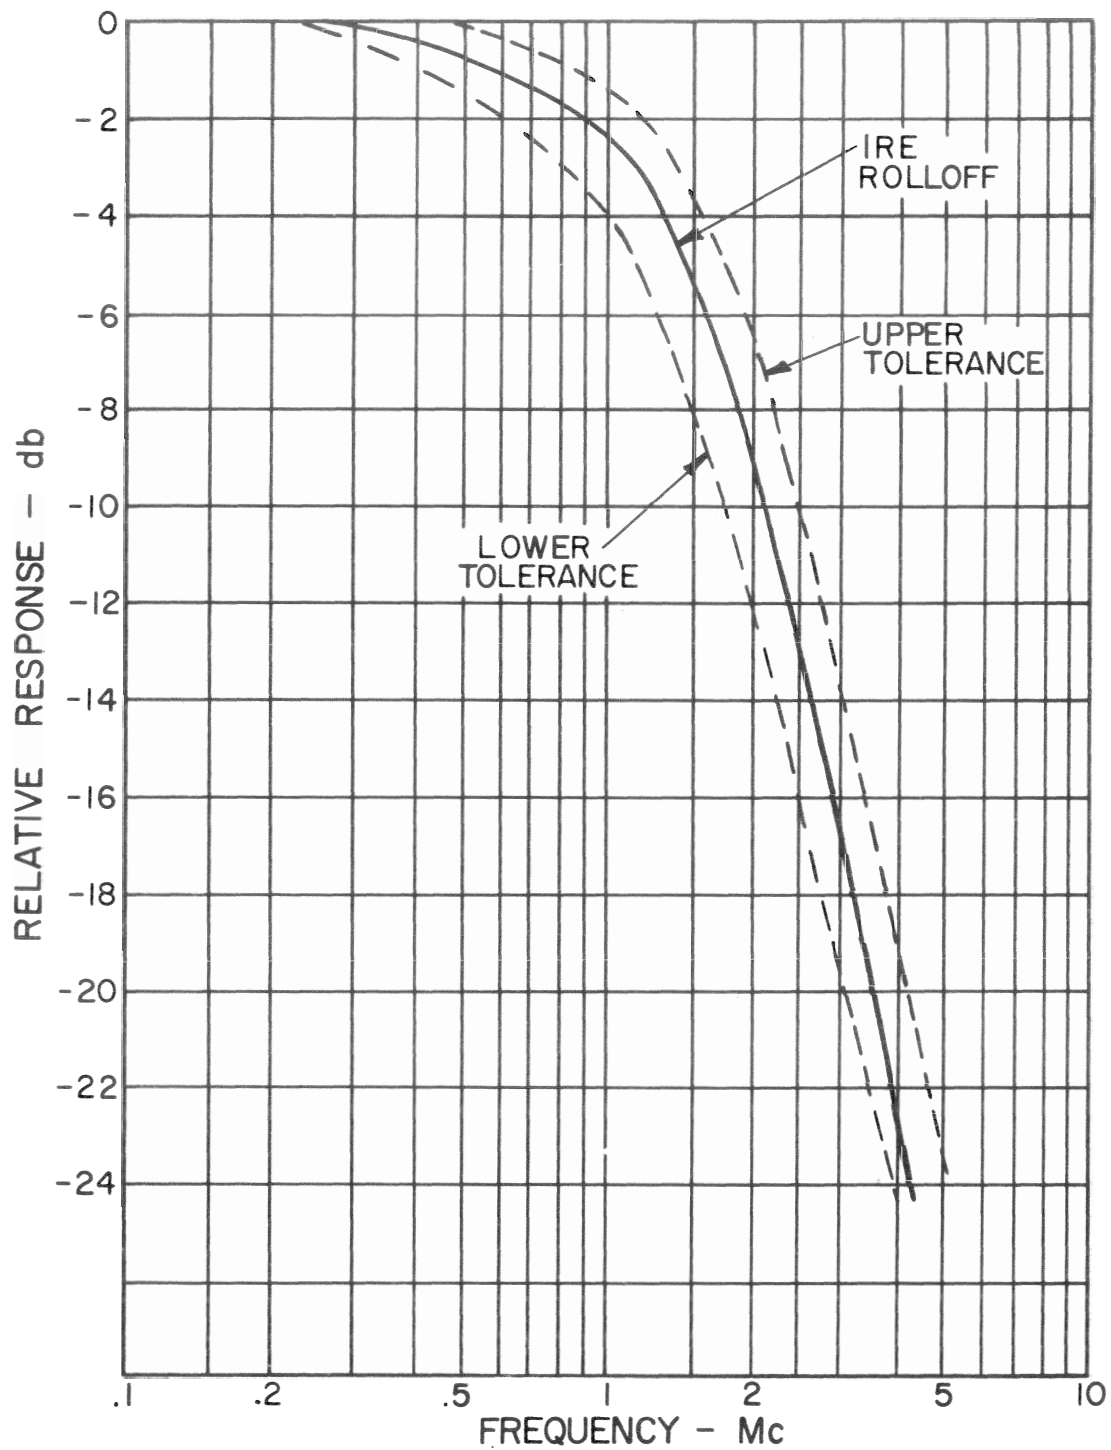

Figure CRO-2. IRE Roll Off Curve
(a) **IRE** — an IRE specified roll-off (see figure CRO-2).
In the IRE position, the signal passes through a filter which provides a roll off in frequency response (see figure CRO-2) corresponding to that specified by the IRE standard. Capacitor, C51 is adjusted for 6 db down at 1.55 mc in accordance with the standard.
1. With the sweep connected as in step 6 above and GAIN set to MED, place the Frequency Response Selector Switch to the IRE position. Capacitor, C51 is adjusted for the response specified by the IRE curve shown in figure CRO-2 (down 6 db at 1.5 mc).